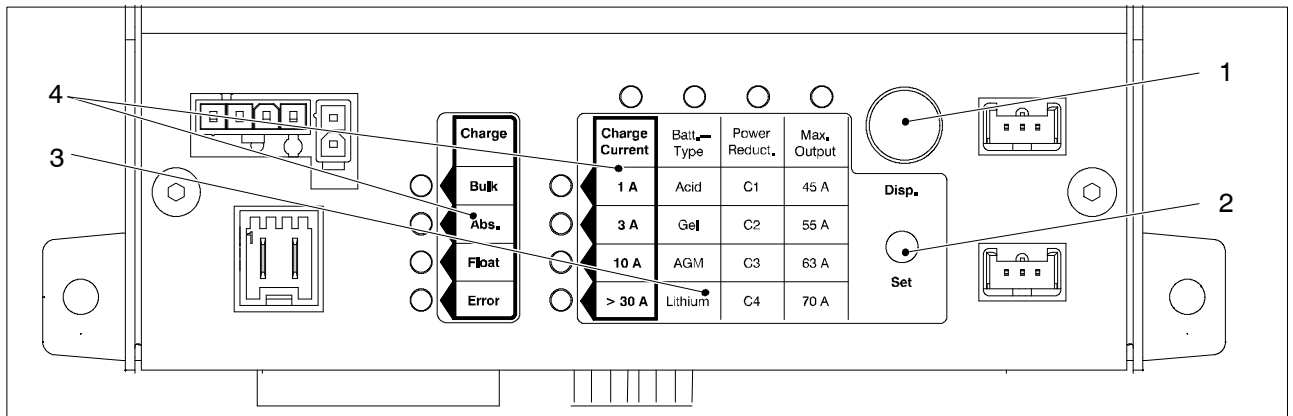

Fig. 11 Control and display panel for adjustments and display
- Display of the current charge and device statuses (Figure 11, Pos. 4), charge cycle and charge current
- On request, display of the current settings (Figure 11, Pos. 3) Battery type "Batt. Type", power reduction characteristic "Power Reduct." and maximum possible output current "Max. Output"
The current settings are displayed using the 4 x 4 matrix on the top of the device (Figure 11, Pos. 3). The top LED line specifies which value it is. The left LED column next to the matrix shows which value is currently set.
- ▶ Briefly press the "Display" (Disp.) button – Figure 11, Pos. 1.
- ▶ Briefly press the "Display" (Disp.) button again – Figure 11, Pos. 1.
- ▶ Within 6 seconds, press the "Set" button (Figure 11, Pos. 2) for longer than 3 seconds.
- ▶ Keep pressing the "Set" button (Figure 11, Pos. 2) until the LED of the battery type required flashes:
- ▶ Press the "Set" button (Figure 11, Pos. 2) for longer than 3 seconds.
- ▶ Keep pressing the "Display" (Disp.) button (Figure 11, Pos. 1) until the LED above the "Power Reduct." column lights.
- ▶ Keep pressing the "Set" button (Figure 11, Pos. 2) until the LED of curve C1 ... C4 required flashes: